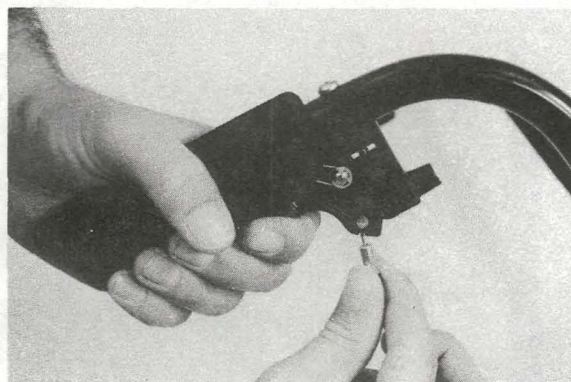

Fig. 11
3. With the throttle trigger depressed, place the barrel end of the throttle wire inside the hole of the trigger (Fig. 11).